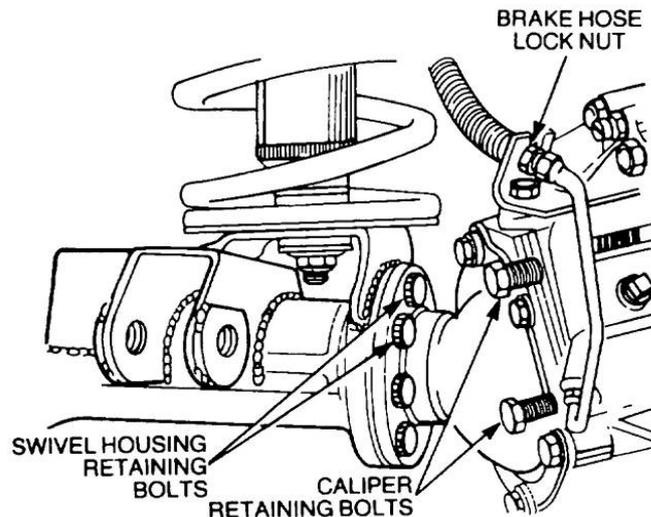

Figure 114 Removal of the Brake Calliper
- e. Slacken the nut securing the brake hose to the retaining bracket (Figure 114).